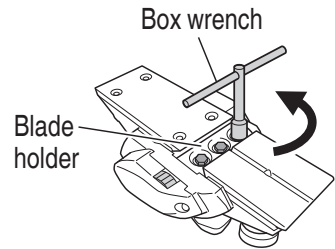

Fig. 8
- (1) As shown in **Fig. 8**, loosen the blade holder with the attached box wrench.